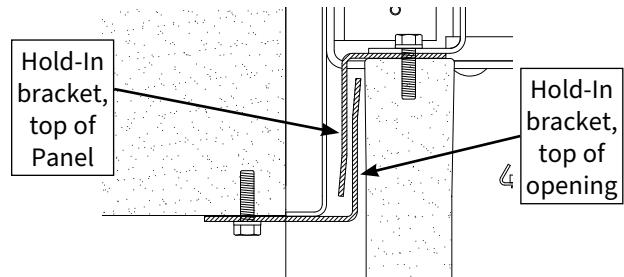

Figure 11: Hold-In Brackets, Top of Opening
2. Slide hold-in brackets on top and trailing edge of door panels in or out such that these brackets are between the hold-in bracket assemblies and the header or the trailing edge face frame (Figure 11 & 12).